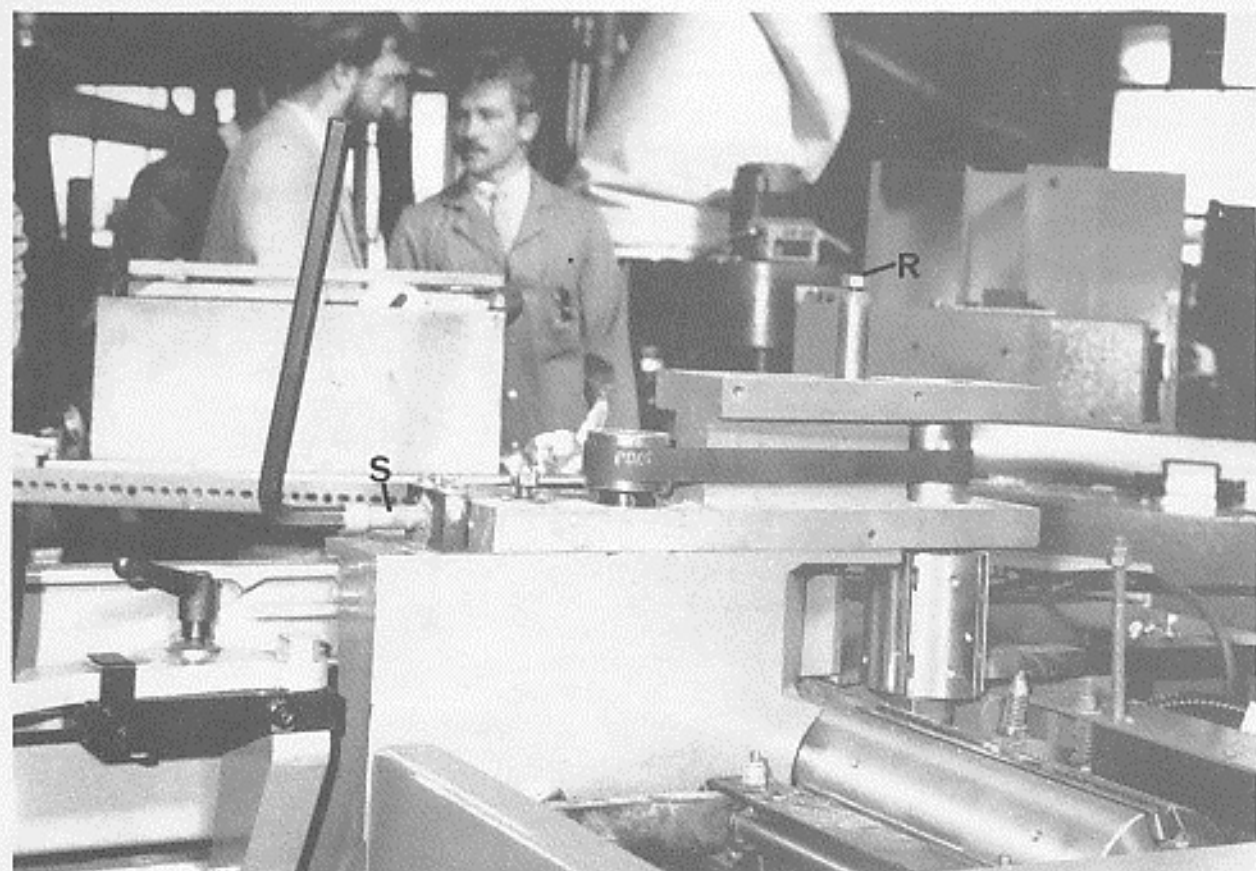

Fig 31
- 5) Loosen M12 nut "R" FIG.31.
- 6) Release tension on pulley by belt adjuster "S" FIG.31. Remove existing belt.